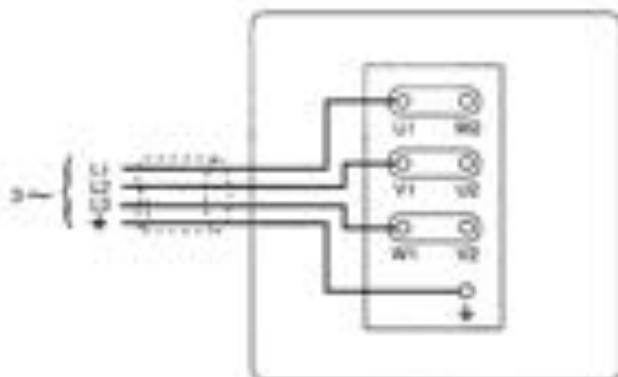

Figure 5 - Electrical supply connection, three-phase motors, 220-240 V 50 Hz, 208-230 V 60 Hz, or 208 V 50Hz
2. Check your electrical supply voltage and frequency. If necessary, configure the motor to operate with your electrical supply (see Figures 5 and 6).
6. Connect the cables to the terminals as shown in Figures 5 and 6.
- Remove the terminal-box cover and swap wires L1 and L3 (see Figures 5 and 6).